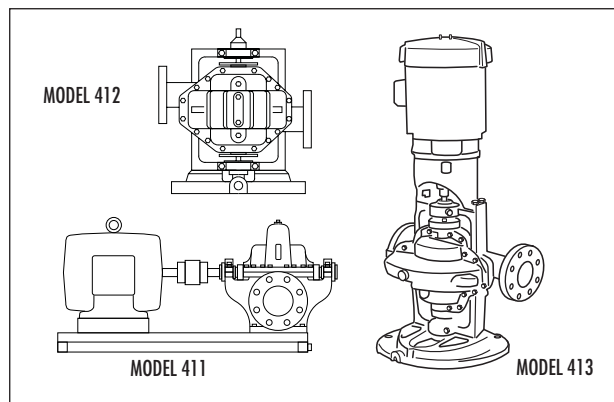

Figure 6. The models shown above are single stage pumps in various mounting configurations.
*Refer to Figure 6 that illustrates the various pump models described in this manual.*